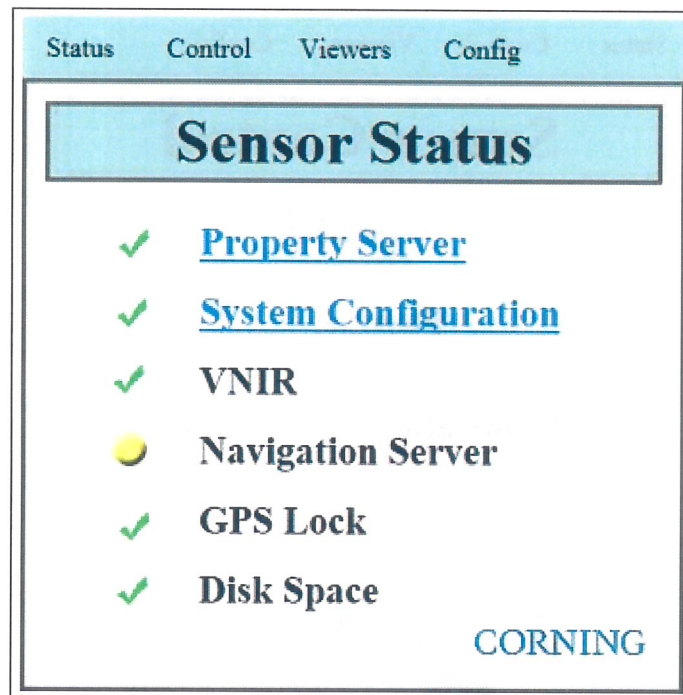

Figure 11: Sensor Status
2. Select a sensor profile to run from the drop down list (1).
3. Select the desired exposure/frame rate from the drop down list (2).
4. Start the system software by pressing the “On” button (3). This will start the sensor profile software selected in step 2. After the system starts, the web interface will be directed to the “Status” page.
5. Wait for the system components to come up. System components are operational when they have a green check mark next to them. All components should be checked except for the navigation server. The yellow circle next to the navigation server indicates that it needs to be aligned. See Figure 11 below.